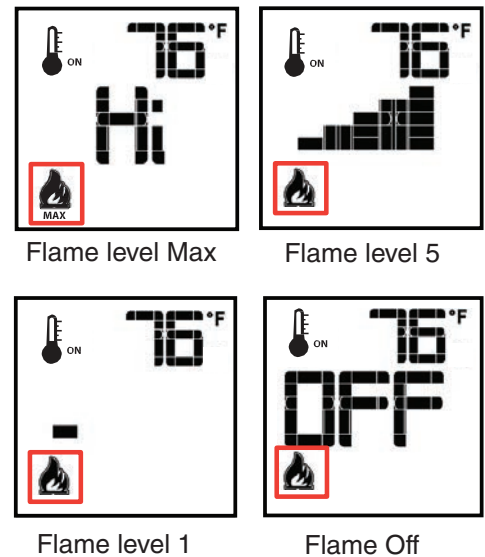

Figure 9: Flame level control.
The Proflame 2 has six (6) flame levels. With the fireplace turned on, and the flame level at maximum height, press the down arrow key on the remote once to reduce the flame height by one step until the flame is turned off (Figure 9).